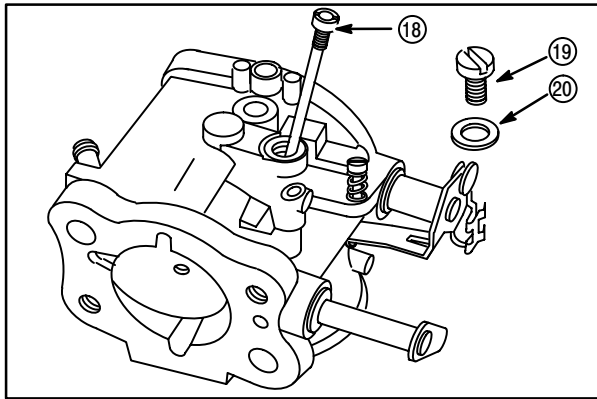

Fig. 38
18. Install idle jet (18), plug (19) and gasket (20), **Fig. 38.**